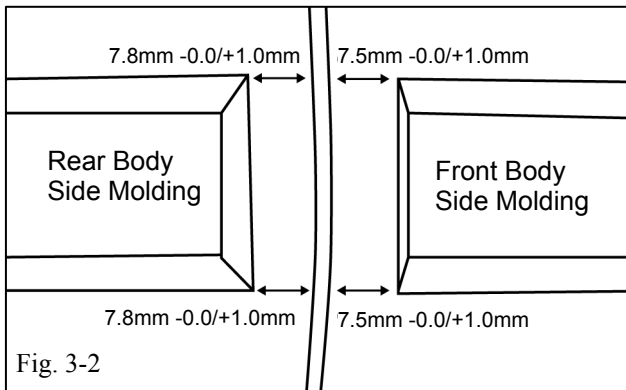

Fig. 3-2
- ⚠ (c) The opening between the doors should look like Fig. 3-2. Tolerance for flushness in the vertical direction of the front and rear molding in relation to each other is 0.0mm +/- 1.0mm.
- ⚠ (d) Place the rear edge of the front molding **7.5mm** from the rear edge of the front door (Fig 3-2). Ensure that the 7.5mm minimum distance is carefully measured.
- ⚠ (j) Place the front edge of the rear molding **7.8mm** from the front edge of the rear door (Fig 3-2). Ensure that a minimum 7.8mm distance is maintained.